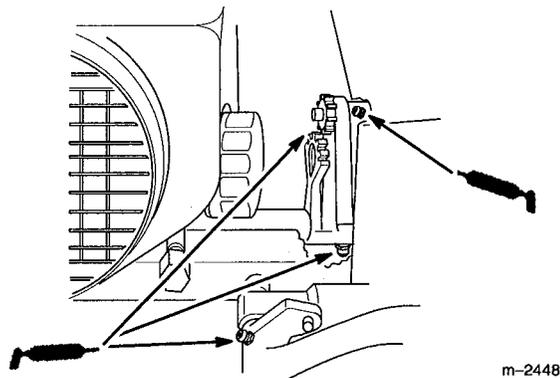

Figure 26
3. Lubricate the brake pedal where it pivots on mounting shaft, steering shaft and spread grease on steering sector teeth (Fig. 26).